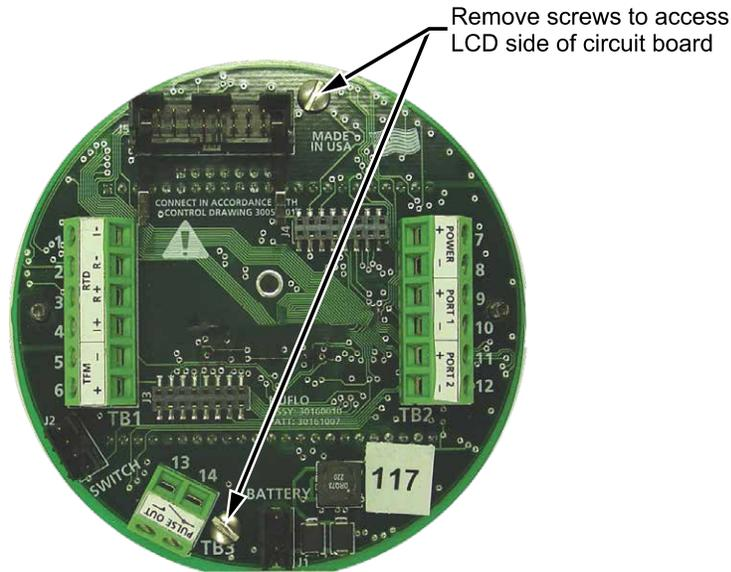

Figure 5.3 - Disassembly of circuit board/keypad assembly
9. Remove the two #4-40 × 5/16-in. screws fastening the circuit board to the keypad (Figure 5.3, page 82).
4. Remove the two #4-40 × 5/16-in. screws fastening the circuit assembly to the keypad (Figure 5.3, page 82).